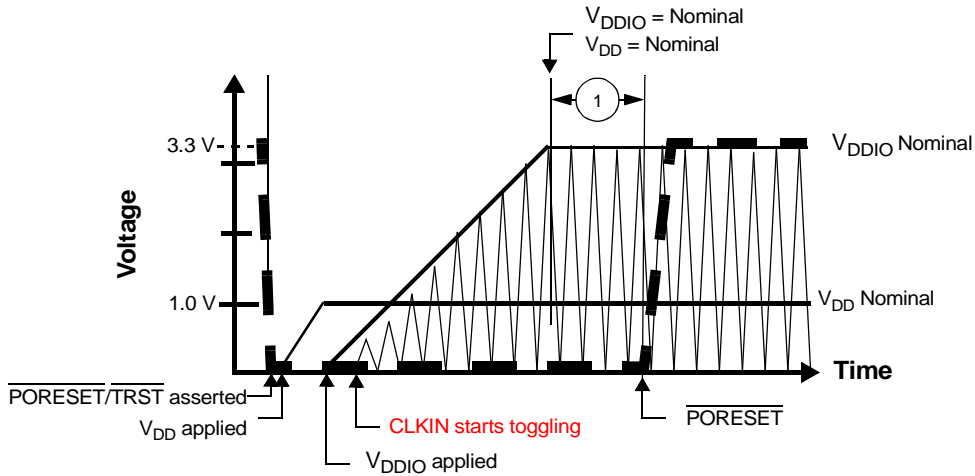

Figure 7. Start-Up Sequence with V_{DD} Raised Before V_{DDIO} with CLKIN Started with V_{DDIO}
- CLKIN should start toggling at least 32 cycles before the $\overline{\text{PORESET}}$ deassertion to guarantee correct device operation (see **Figure 7**). 32 cycles should be accounted only after V_{DDIO} reaches its nominal value.
Figure 7 shows a sequence in which V_{DDIO} is raised after V_{DD} and CLKIN begins to toggle with the raise of V_{DDIO} supply.